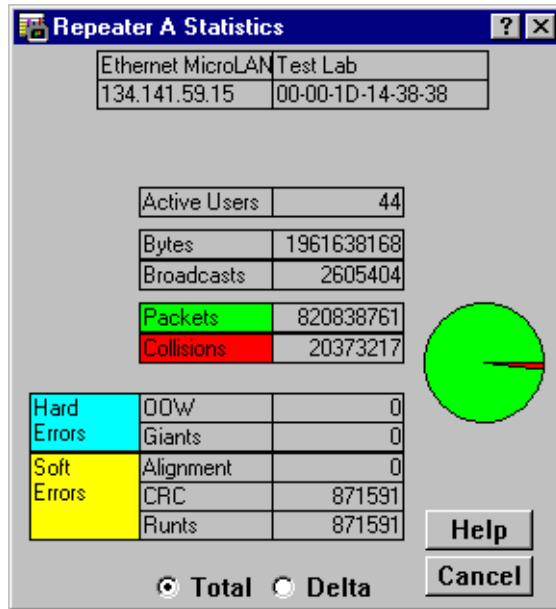

Figure 5-1. The Repeater Statistics Window
3. Select **Statistics**. The Repeater Statistics window, Figure 5-1, will appear.
The Module and Port Statistics windows are the same as the Statistics window displayed in Figure 5-1, except that they display statistics applicable to the module or port.